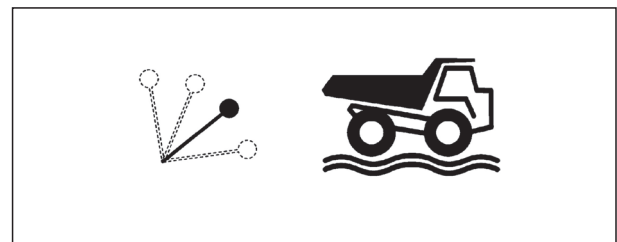

Fig. 4.21
1. Make sure the body is fully down and body control lever is in the 'FLOAT' position.(see Figure. 4-21)